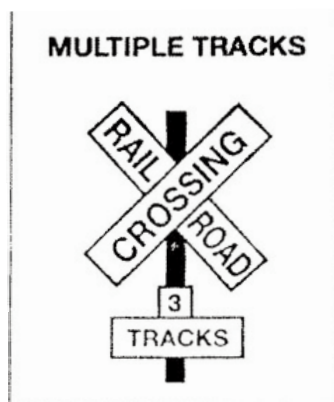

Figure 2.17
**Crossbuck Signs.** This sign marks the grade crossing. It requires you to yield the right-of-way to the train. If there is no white line painted on the pavement, you must stop the bus before the crossbuck sign. When the road crosses over more than one set of tracks, a sign below the crossbuck indicates the number of tracks. See *Figure 2.17*.